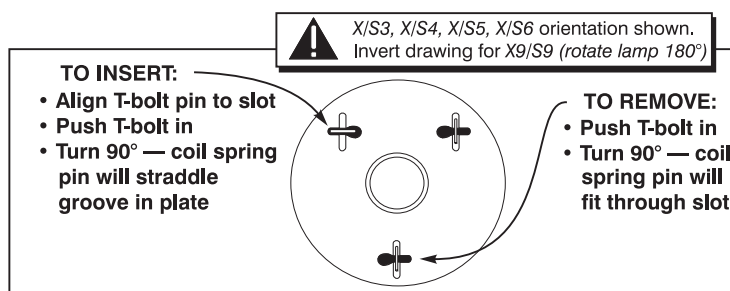

Figure 4.7. Using the T-bolts
- Push the lamp all the way back and make sure the pin on each T-bolt aligns with its slot on the alignment plate—slowly turn each until the clearance slot is located. Then push and turn each T-bolt 90° to lock. See Figure 4.7.